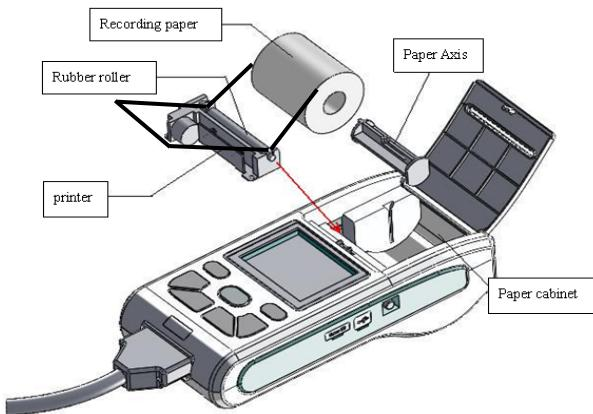

Figure 6-1 Installation of recording paper
- As shown in Figure 6-1, press the paper compartment cover, it is automatically bounced, take out the paper axis, insert it into the recording paper as shown in the figure. The paper side with grids should be faced downwards, and then install it to proper position in the paper compartment, and press the rubber roller on the recording paper.